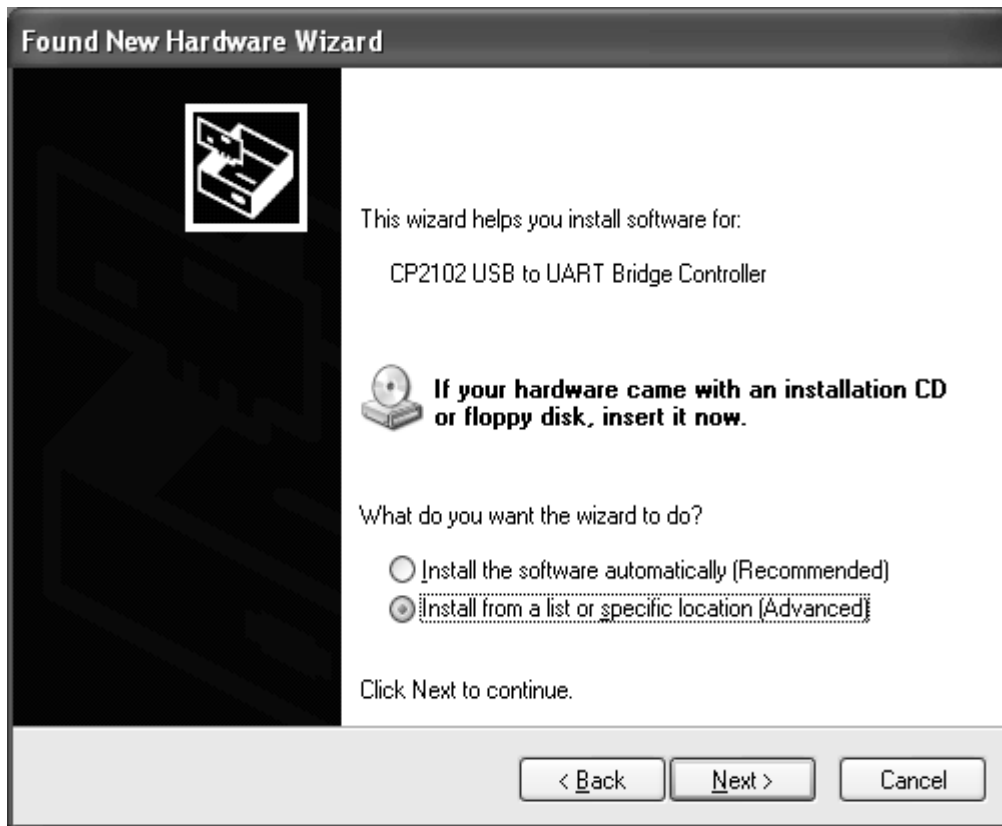

Fig. 37 New Hardware search wizard
- (12) Click **Next** and the new hardware shown in Fig.37 appears. Select **“Install from a list or specific location (Advanced)”**.